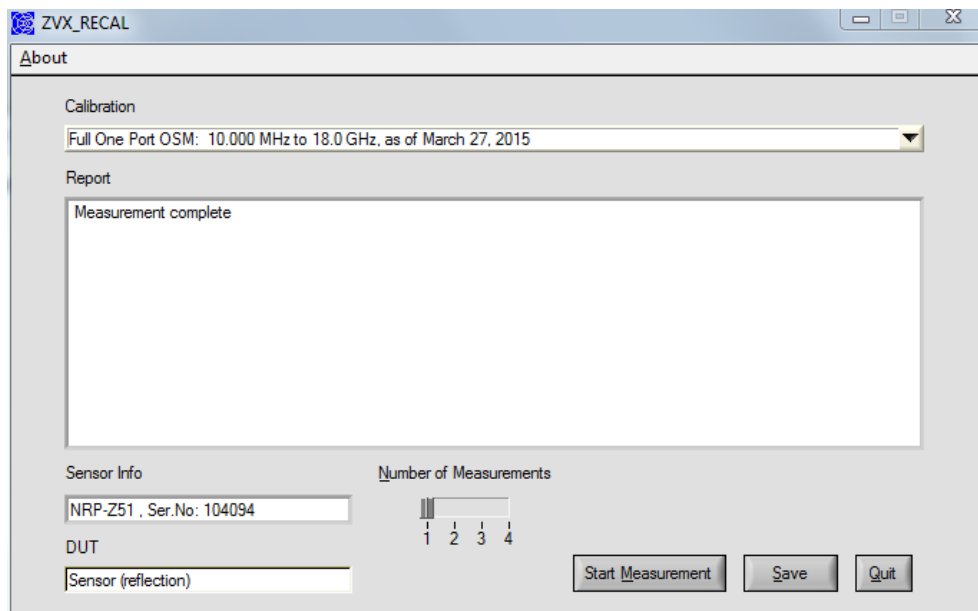
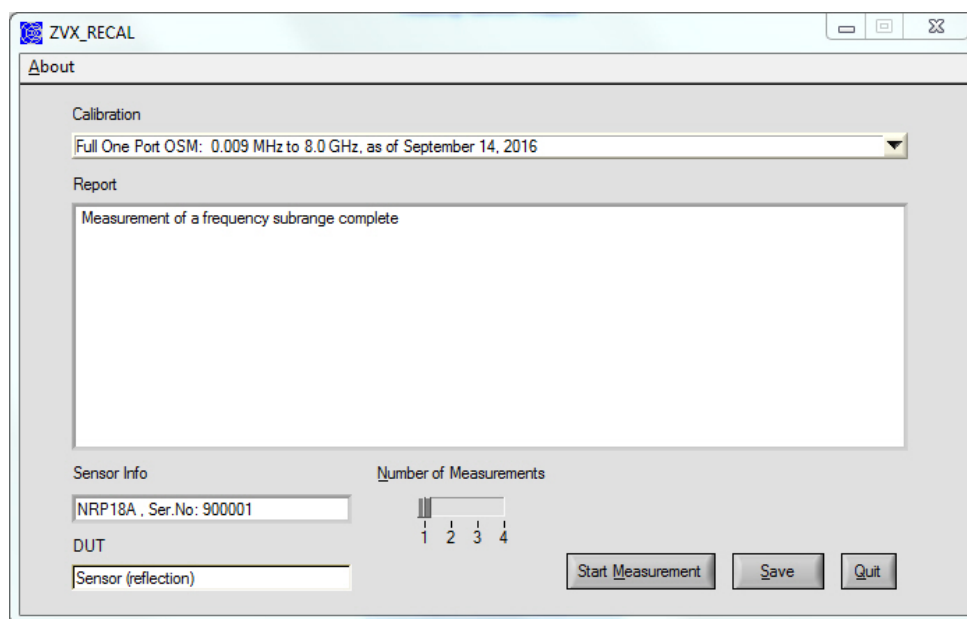

Fig. 6-10 User interface after completed reflection measurement
Fig. 6-11 User interface after reflection measurement of a frequency subrange
- Press the **Continue** button. Depending on the number of set measurements, there is either another prompt to connect the DUT (in another angular position) or the **R&S®ZVX_RECAL** user interface will appear with the **Measurement complete!** message (Fig. 6-10)
Depending of measurements performed the **R&S®ZVX_RECAL** user interface will appear with **Measurement of a frequency subrange complete** (Fig. 6-11) or the **Measurement complete** message (Fig. 6-10)